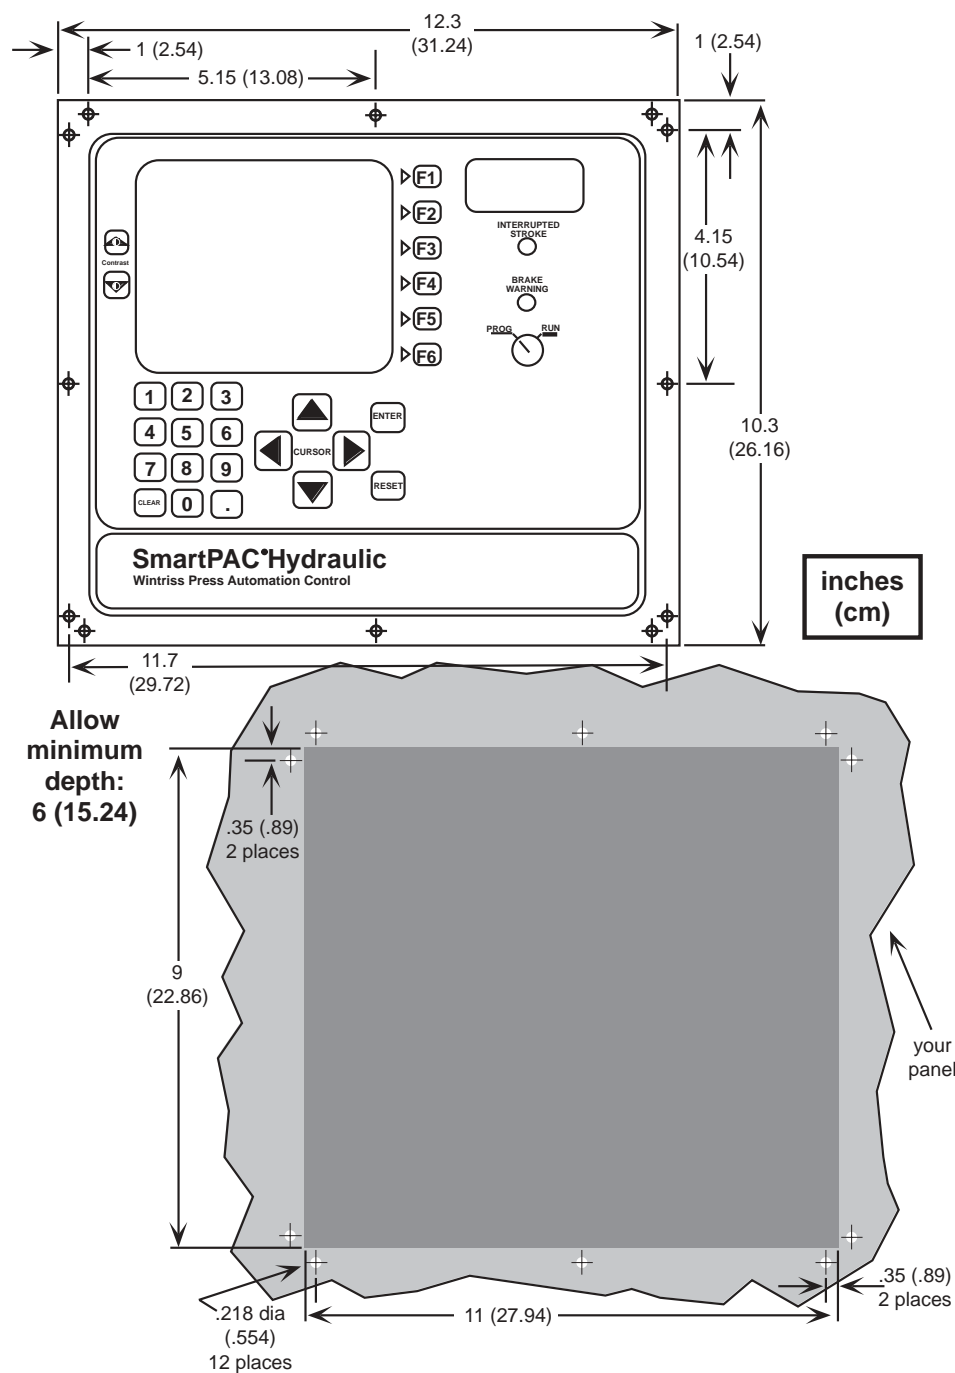

Figure 2-3. Mounting & cutout dimensions for SmartPAC Hydraulic panel mount
2. Cut out a hole in your panel enclosure, and drill and tap twelve holes for #10-32 screws. Refer to Fig. 2-3, Pg. 21 for mounting and "cutout" dimensions.